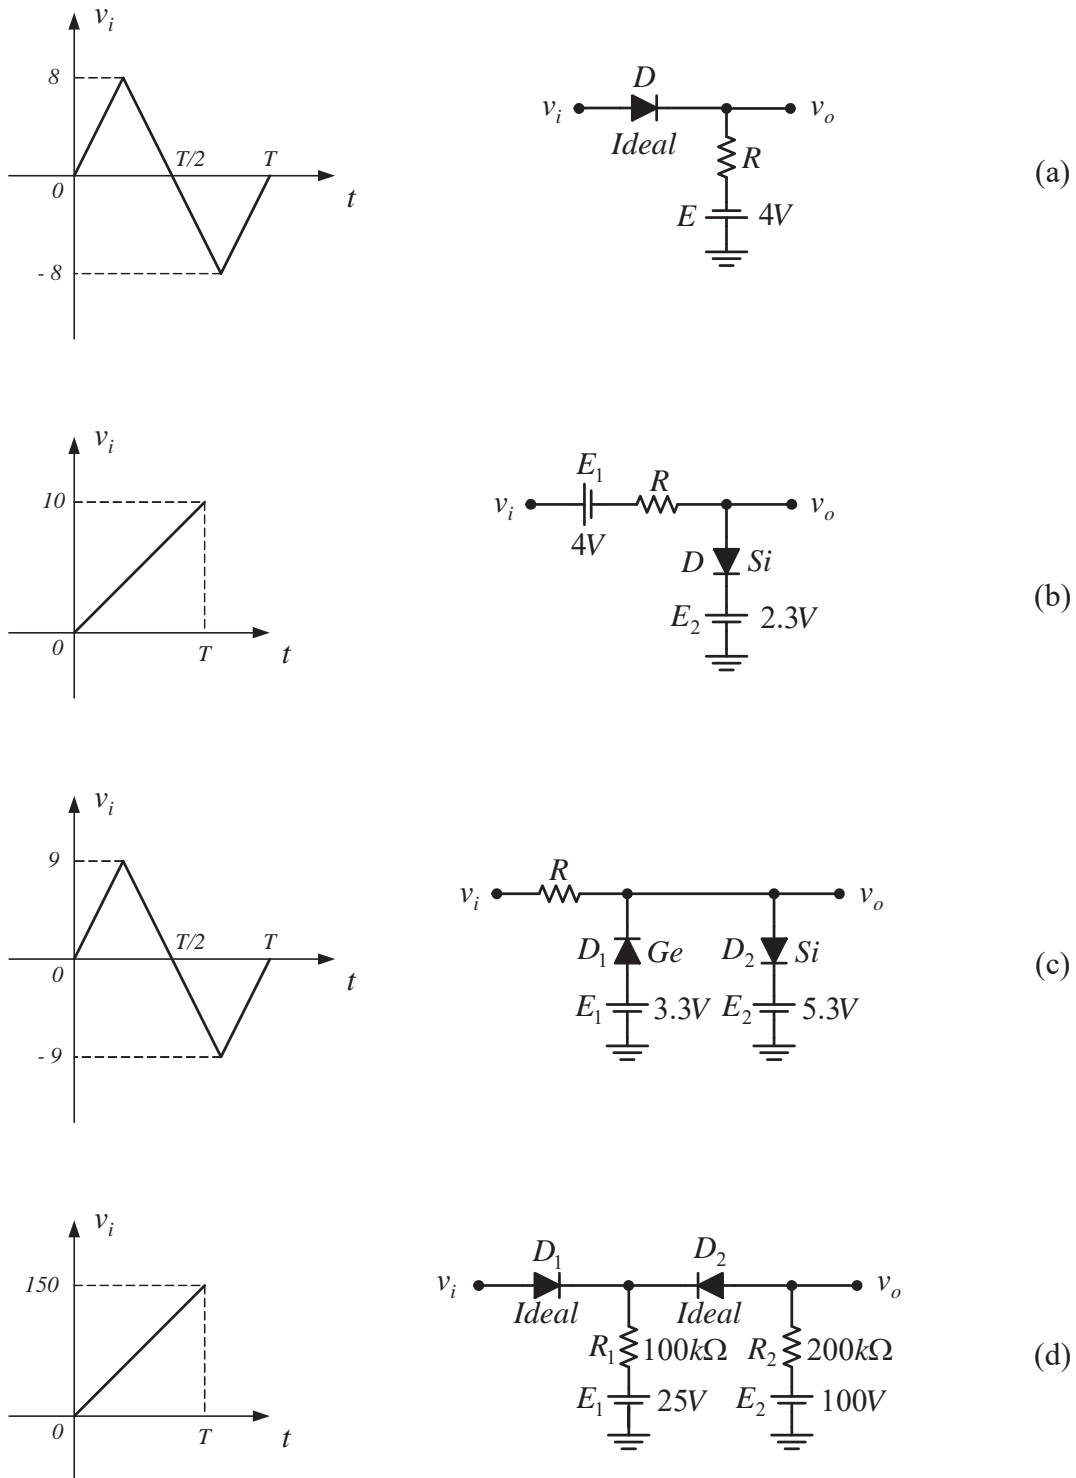

Fig. 3-9
2. Sketch the output voltage (v_o) and the transfer characteristics (v_o against v_i) for each circuit of Fig. 3-9 for the input (v_i) shown.